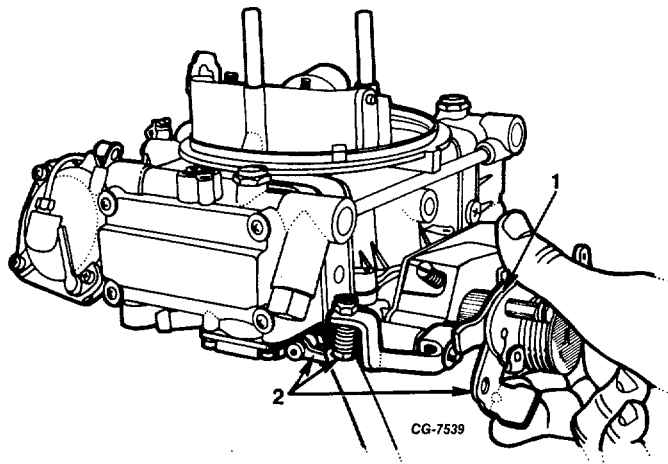

Figure 55. Accelerating Pump Lever Adjustment
1. Using a feeler gauge and with the throttle plates in the wide-open position, there should be the specified clearance of .015" minimum between the accelerating pump operating lever adjustment screw and the pump arm when the pump arm is depressed manually (Fig. 55).
To satisfy acceleration requirements in various climates, the accelerating pump discharge can be adjusted (Fig. 55). The bottom hole (No. 2) in the acceleration pump cam and the throttle lever provides the maximum pump discharge for extreme cold weather and the top hole (No. 1) provides the minimum pump discharge for warm weather operation. If a change in the adjustment is required, make certain the proper hole (top or bottom) in plastic accelerating pump cam, located behind the throttle lever, is properly aligned (indexed) with the numbered hole (top or bottom) in the throttle lever before installing the retaining screw.